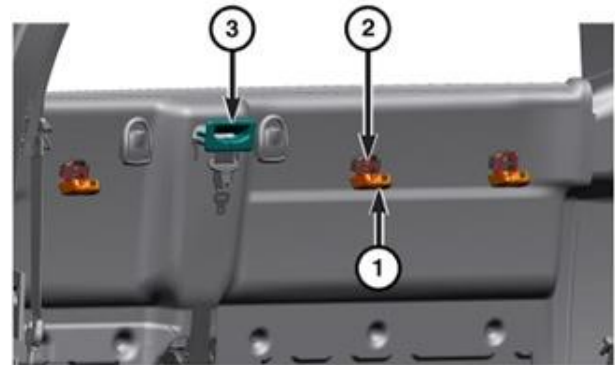

Figure 7 – Rear Cab Back Trim Panel
6. Using a trim stick or equivalent, release tabs and drop down the three hook covers (Figure 7).
7. Remove the three screws and remove the three hooks from the rear cab trim panel (Figure 7).
18. Slide the seat belt through the slit on bottom of the trim ring then install the seat belt trim ring to the back panel trim (Figure 7).
19. Install the three hooks to the rear cab trim panel and tighten the screws securely then close the hook covers (Figure 7).